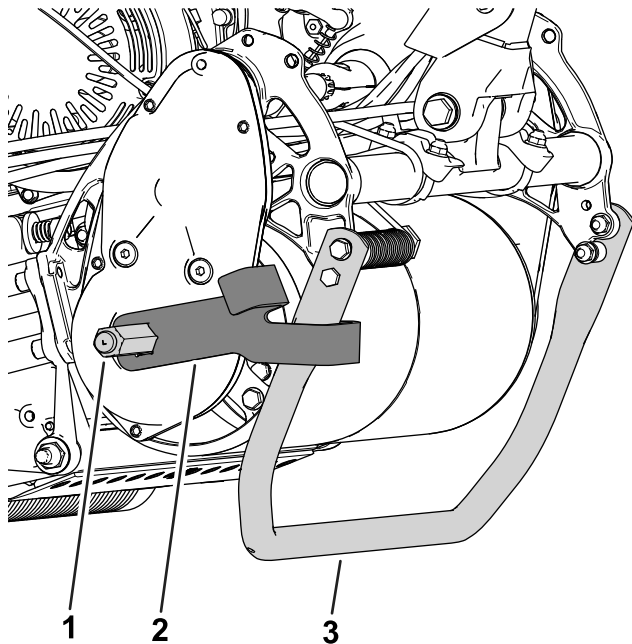

Figure 10
- **Drum set to the High position:** slide the bracket over the shaft with the longer prong facing toward the machine (as shown in Figure 10).